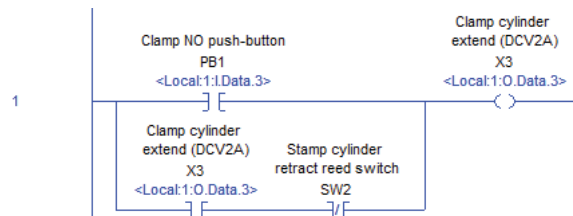
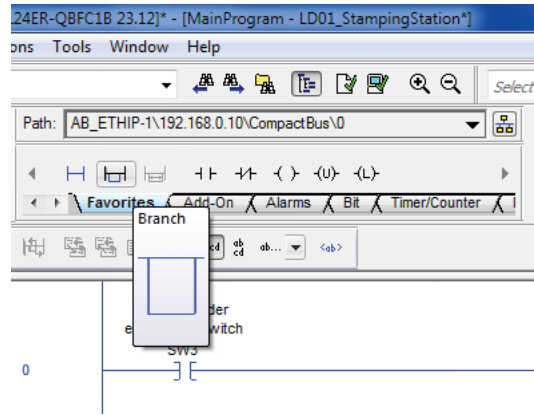

Figure 105. Rung 1 (clamp extend).
Figure 106. Adding a branch.
17. Enter the logic for this rung according to Figure 105. Figure 106 shows where to go to add a branch. X3 (clamp cylinder solenoid) energizes if one of these two conditions is fulfilled: